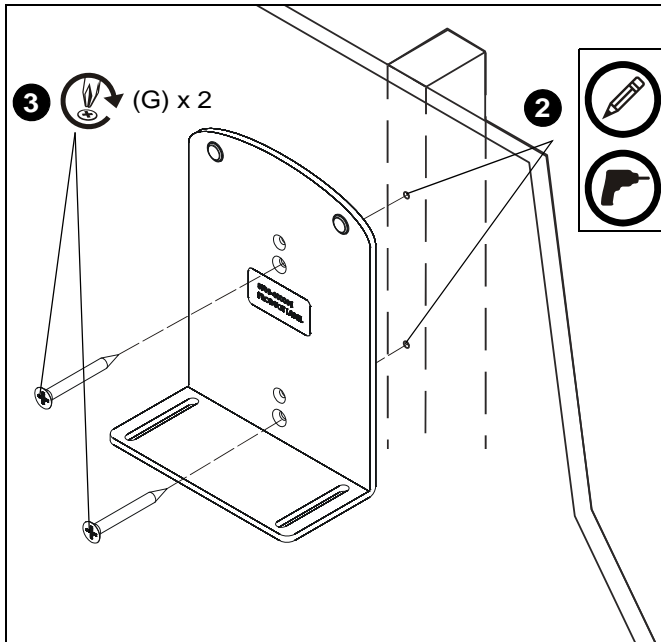

Figure 7
2. Using the CPU wall mount plate (A) as a template, mark and then drill two 7/64" diameter pilot holes through the lower holes of CPU wall mount plate into wall structure. (See Figure 7)
3. Install two #12 x 2 1/2" Phillips flat wood screws (G) through CPU Wall Mount Plate and into holes. (See Figure 7)